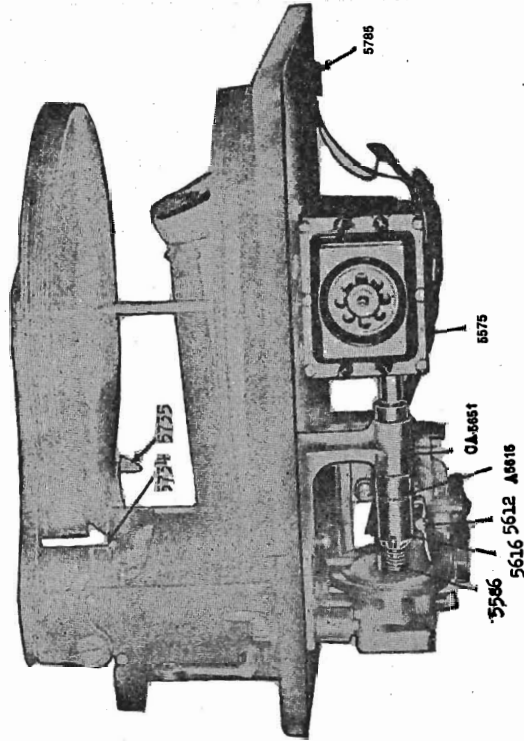

Fig. 4
Should either or both of the drive-motors refuse to run, or run in only one direction the following procedure may be followed: Connect one end of a length of wire to contact "C" of the receptacle (fig. 4.) and touch the other end alternately to each lug of the condenser mounted next to the volume control drive motor. If the motors run, and in both directions, the trouble is in either the cable, the remote-control push-button box, or the contacts on the brass disk. A continuity check will reveal the open circuit.
If the motors do not run when the wire is touched to the condenser lugs, the fault may lie in the voltage supply, the motor proper or in the 0.1 mfd filter condensers. An a.c. voltmeter connected from "C" (fig. 4) to the chassis should give a reading of approximately ten volts. If no reading is obtained, the trouble may be either a blown fuse or an open transformer. If a reading is obtained the 0.1 condensers should be tested for breakdown. If they prove perfect, the trouble is in the motor windings. In particular, the brushes should be examined for good contact with the commutator, and the commutator itself brightened with a piece of very fine sandpaper. In time the spider washers in the friction drive may lose some of their tension, resulting in slippage in the drive. These washers are easily removed and bent to increase their tension.
* Fig. 4 shows the circuit used. As is seen, it consists essentially of two motors, one for turning the volume control and the other the tuning condensers, and means for controlling the direction and amount of rotation of the motors from a remote point. Each of the motors has two field windings, poled in such way that switching from one to the other reverses the direction of motor rotation.
* Study of fig. 4 reveals that when any one of the station buttons is pressed, the circuit is completed through the contact stud connected to it and the station-selector motor revolves, turning the tuning condensers and the split brass disk fastened to the condenser shaft. The motor continues to drive the condenser shaft (through a friction drive) until the insulating slit in the brass disk comes directly under the contact stud and breaks the circuit. When the slit is under the contact stud, the tuning condensers are in proper position for reception of the station. Should the momentum of the motor be sufficient to carry the disk past the point where the stud and slit coincide, the stud